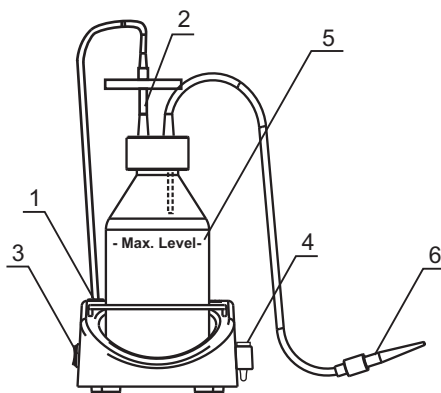
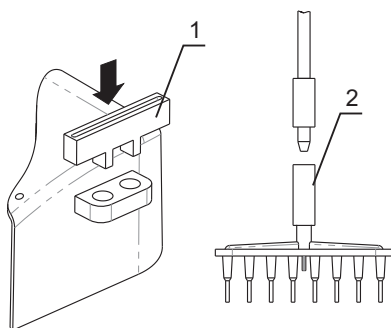

Fig.1 Assembled unit
Fig.2 Optional MA-8 aspiration tip installation
- Do not allow the collected buffer level to exceed the max. level (see Figure 1/5). Empty the trap flask when the liquid level reaches maximum. Take necessary precautions utilizing waste liquid in accordance with general laboratory standards.
- screw the outlet pipe to the socket connector of the pump (Fig.1/1) located on top of the unit (turning clockwise);
- ensure that the filter is tightly inserted in the socket (Fig.1/2);
- place the tube into a holder (fig.1/4) situated at FTA-1 right hand side.
- remove tubes from the holder situated at FTA-1 right hand side (fig.1/4);
- place MA-8 storing holder (fig.1/1) into the holder (fig.2/↓);
- remove standard aspiration tip from the inlet pipe (fig.1/6) and connect the MA-8 aspiration tip (fig.2/2);
- 4.2. Switch ON the unit using the **Power** switch on the side surface (fig. 1/3).
- 4.4. Use the mini-holder (Fig. 1/4) situated at the right side of the unit for washing and storing the aspiration tip. Two tubes can be placed in the holder (e.g. for hydrochloric acid solution and distillate).
Caution! During operation do not allow the collected buffer level to exceed the max. level (see Figure 1/5). Empty the tarp flask when the liquid level reaches maximum (according to p. 4.6).
- 4.5. After finishing the operation switch OFF the **Power** switch (fig. 1/3) and disconnect the external power supply unit from electric circuit.